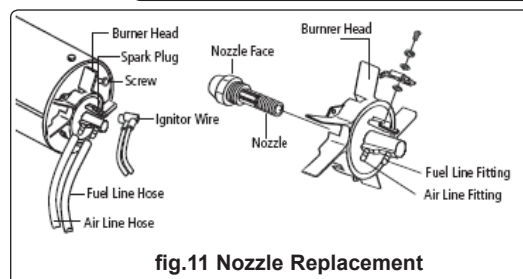

fig.11 Nozzle Replacement
6.6.2 Remove the burner head and remove the nozzle (fig.11).